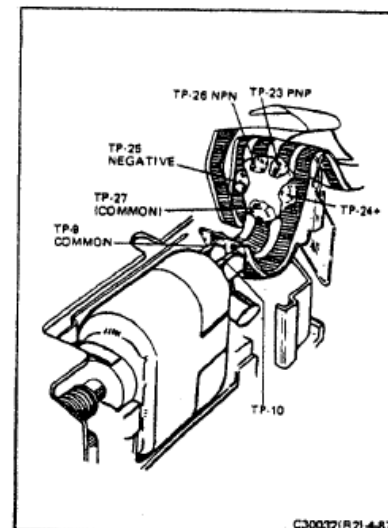

FIGURE 4-87 MCC TO MOTOR CONNECTIONS
12. Locate the flex circuit extension that reaches the two motor contacts, Figure 4-87. Using tweezers, press the flex circuit over the motor contacts until the contacts protrude through the flex circuit. If this step is performed correctly, the flex circuit will be held securely in place on the two motor contacts.